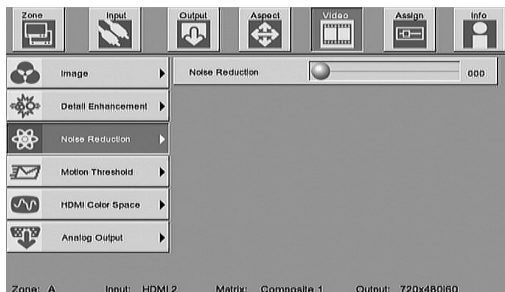

Figure 72
2. Select the VIDEO Icon, then select the NOISE REDUCTION Icon. Refer to figure 72.